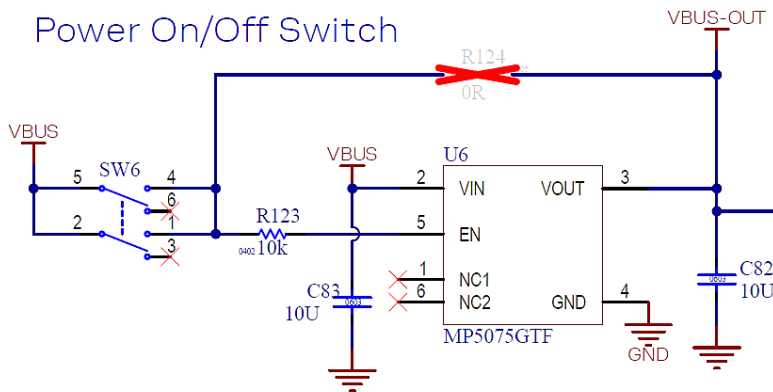

Figure 4: EVK-IRIS-W10 maximum current options
- Populate the 2.4 A power switch **U6**, MP5075GTF (default), and disconnect **R124**, as shown in Figure 4.